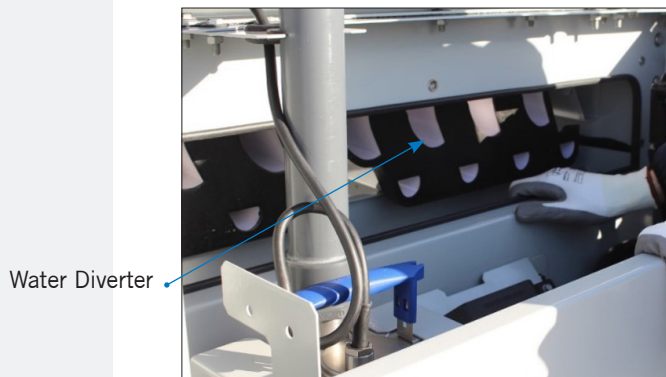

Figure 2. Water Diverter
- Ensure that the water diverter (see **Figure 2**) is free of dirt and debris.